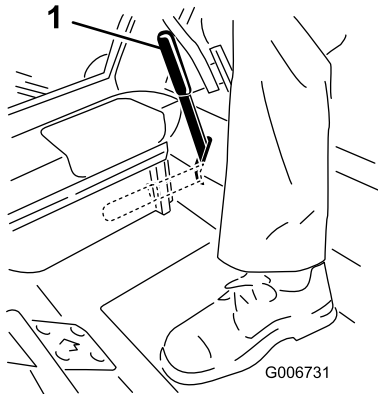

Figure 41
2. Pull up and back on the parking brake lever to set the parking brake (Figure 41). The parking brake lever should stay firmly in the engaged position.
Push forward and down on the parking brake lever to release the parking brake (Figure 41).